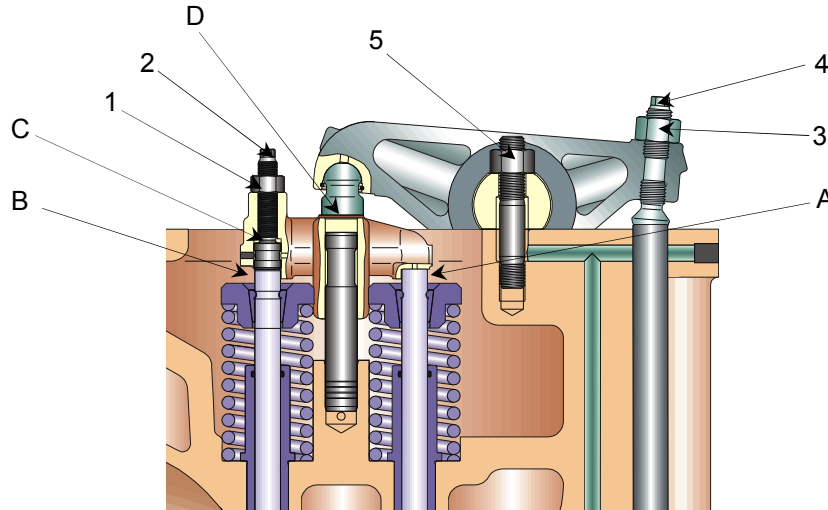

Fig. 1 Adjustment of valve clearance (밸브 틈새의 조정)
4. Press the non-adjusting side of yoke in order to contact with top of valve stem (A) firmly as shown on fig 1.